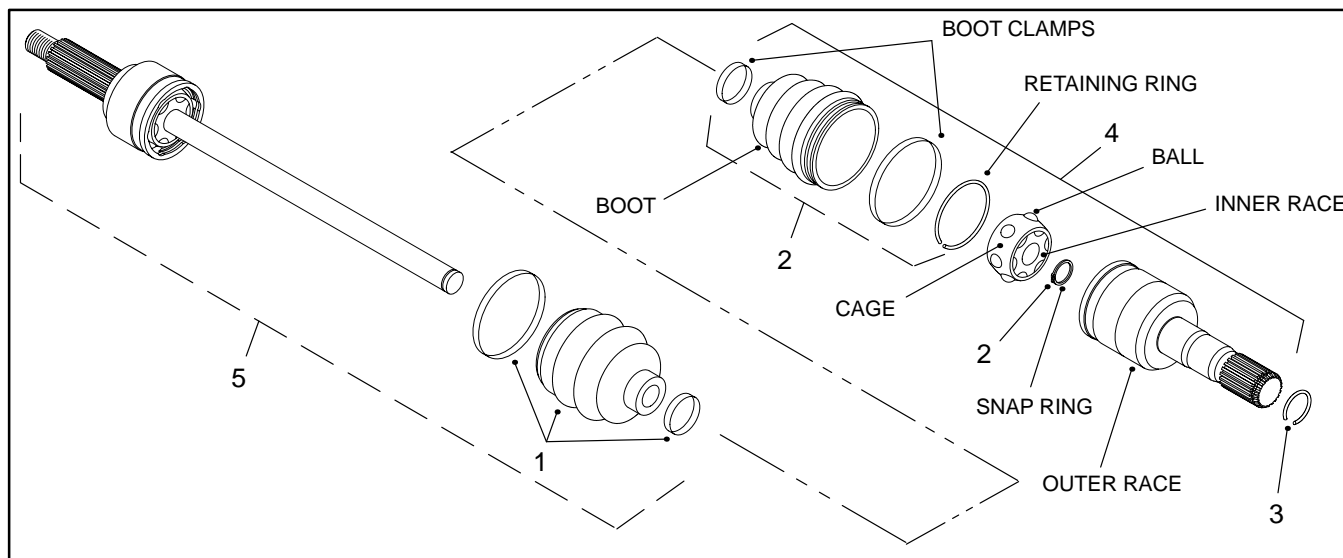
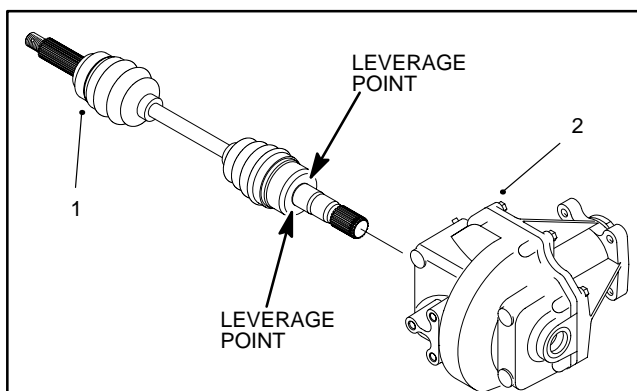

Figure 9
Figure 10
1. Remove wheel, stub axle (31) and axle housing (28) from the CV joint (15) and front suspension (see Front Wheel Bearing Service Disassembly).
2. Use two small pry bars (180° apart) to leverage the CV joint out of the front differential. Use even pressure on both pry bars (Fig. 10).
3. Inspect front wheel bearings (14) (see Front Wheel Bearing Service Inspection).
1. If necessary, install a new circular clip onto the splined (inboard) end of the CV joint. Grease with No. 2 general purpose lithium base grease (Fig. 9).
2. Insert end of CV joint into the front differential until a snap is heard. **Pull outward on CV joint as close as possible to the front differential to make sure that the CV joint is properly snapped properly into place (Fig. 10).**
3. Reassemble axle housing (28), stub axle (31), and wheel to the CV joint (15) and front suspension (see Front Wheel Bearing Service Assembly).
**Disassembly (Fig. 9)**
**Assembly (Fig. 9)**